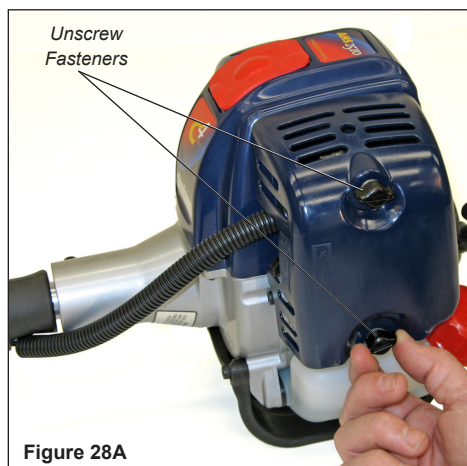

Figure 28A
1. Remove the air cleaner cover by loosening the two thumbscrews. See Figure 28A.